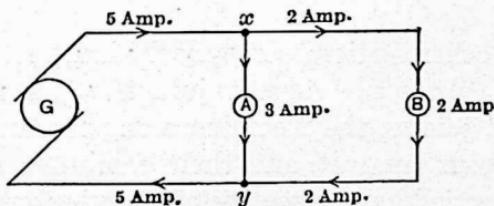
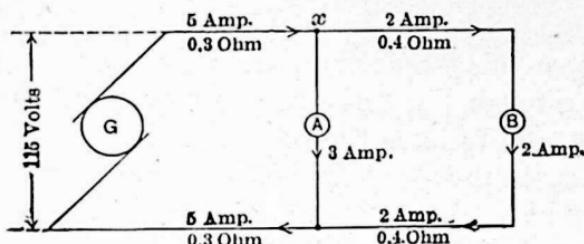

FIG. 61.
FIG. 67.
Suppose, as in Fig. 61, two lamps *A* and *B* are connected to a circuit in such a way that *A*, taking 3 amperes, is much nearer the generator than *B*, which takes 2 amperes. Then in the section of the line which lies between *A* and *B*, 2 amperes must flow in order to supply lamp *B* with
2 amperes. But the section of the line between the generator and *A* must carry enough current to supply both lamp *A* and lamp *B*. Thus this section must carry 5 amperes as in Fig. 61. When this current of 5 amperes in the line reaches the point (*x*) it divides, 3 amperes going down through the lamp *A* and the rest (2 amp.) going on
24. Voltage Required for the Line. Line Drop. Let us assume that a circuit, Fig. 67, is arranged as in Fig. 61, except that the resistance of the line wires and the generator voltage are introduced. The wires from the generator *G* to the lamp *A* each have a resistance of 0.3 ohm. The wires from the lamp *A* to the lamp *B* each have a resistance of 0.4 ohm.
First Step. Current Distribution. As we saw in Fig. 61 each of the wires from G to A has a current of 5 amp. flowing through it, and each of the wires from A to B has a current of 2 amp.